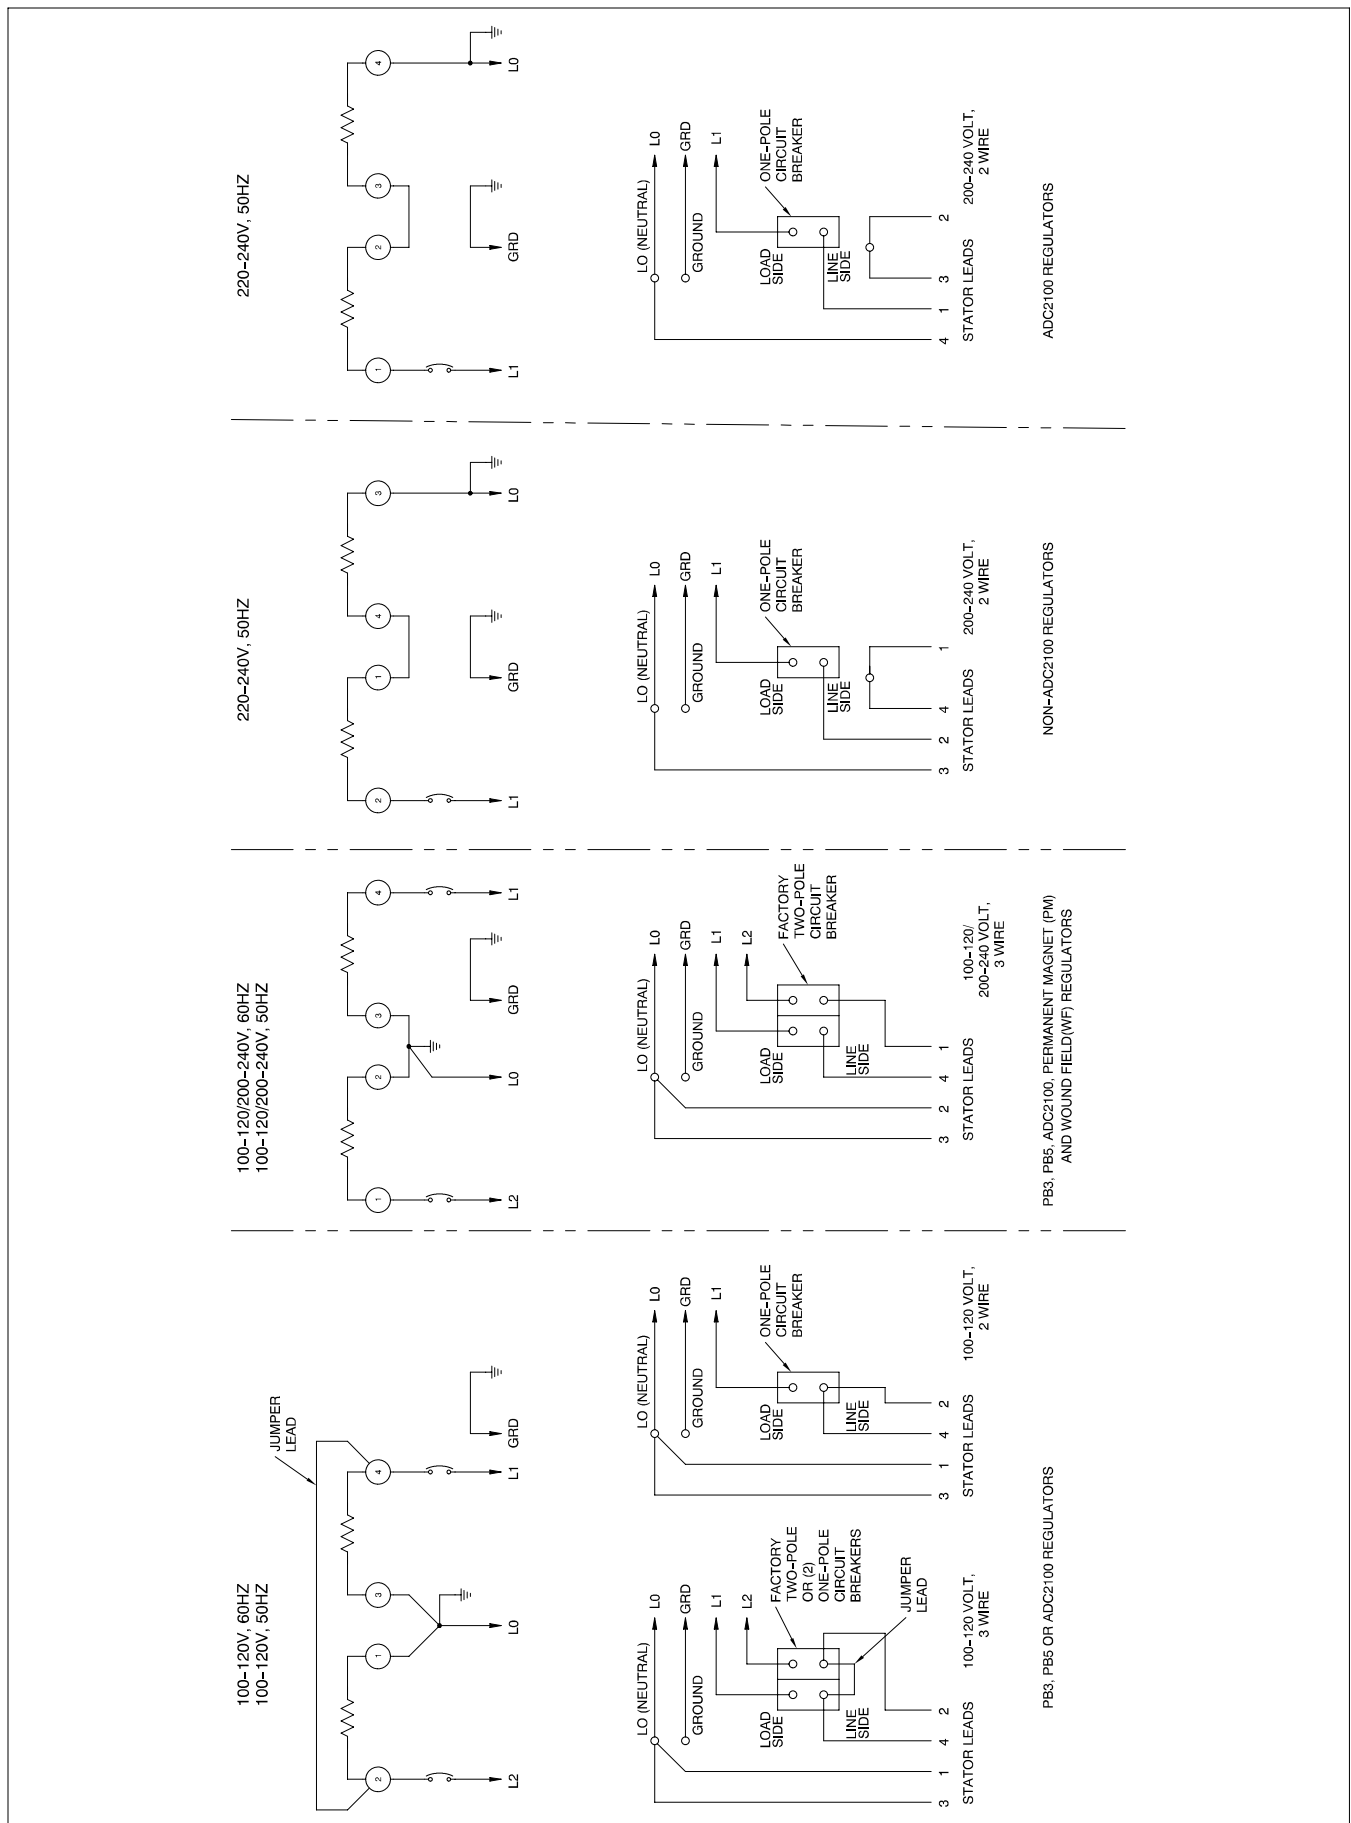
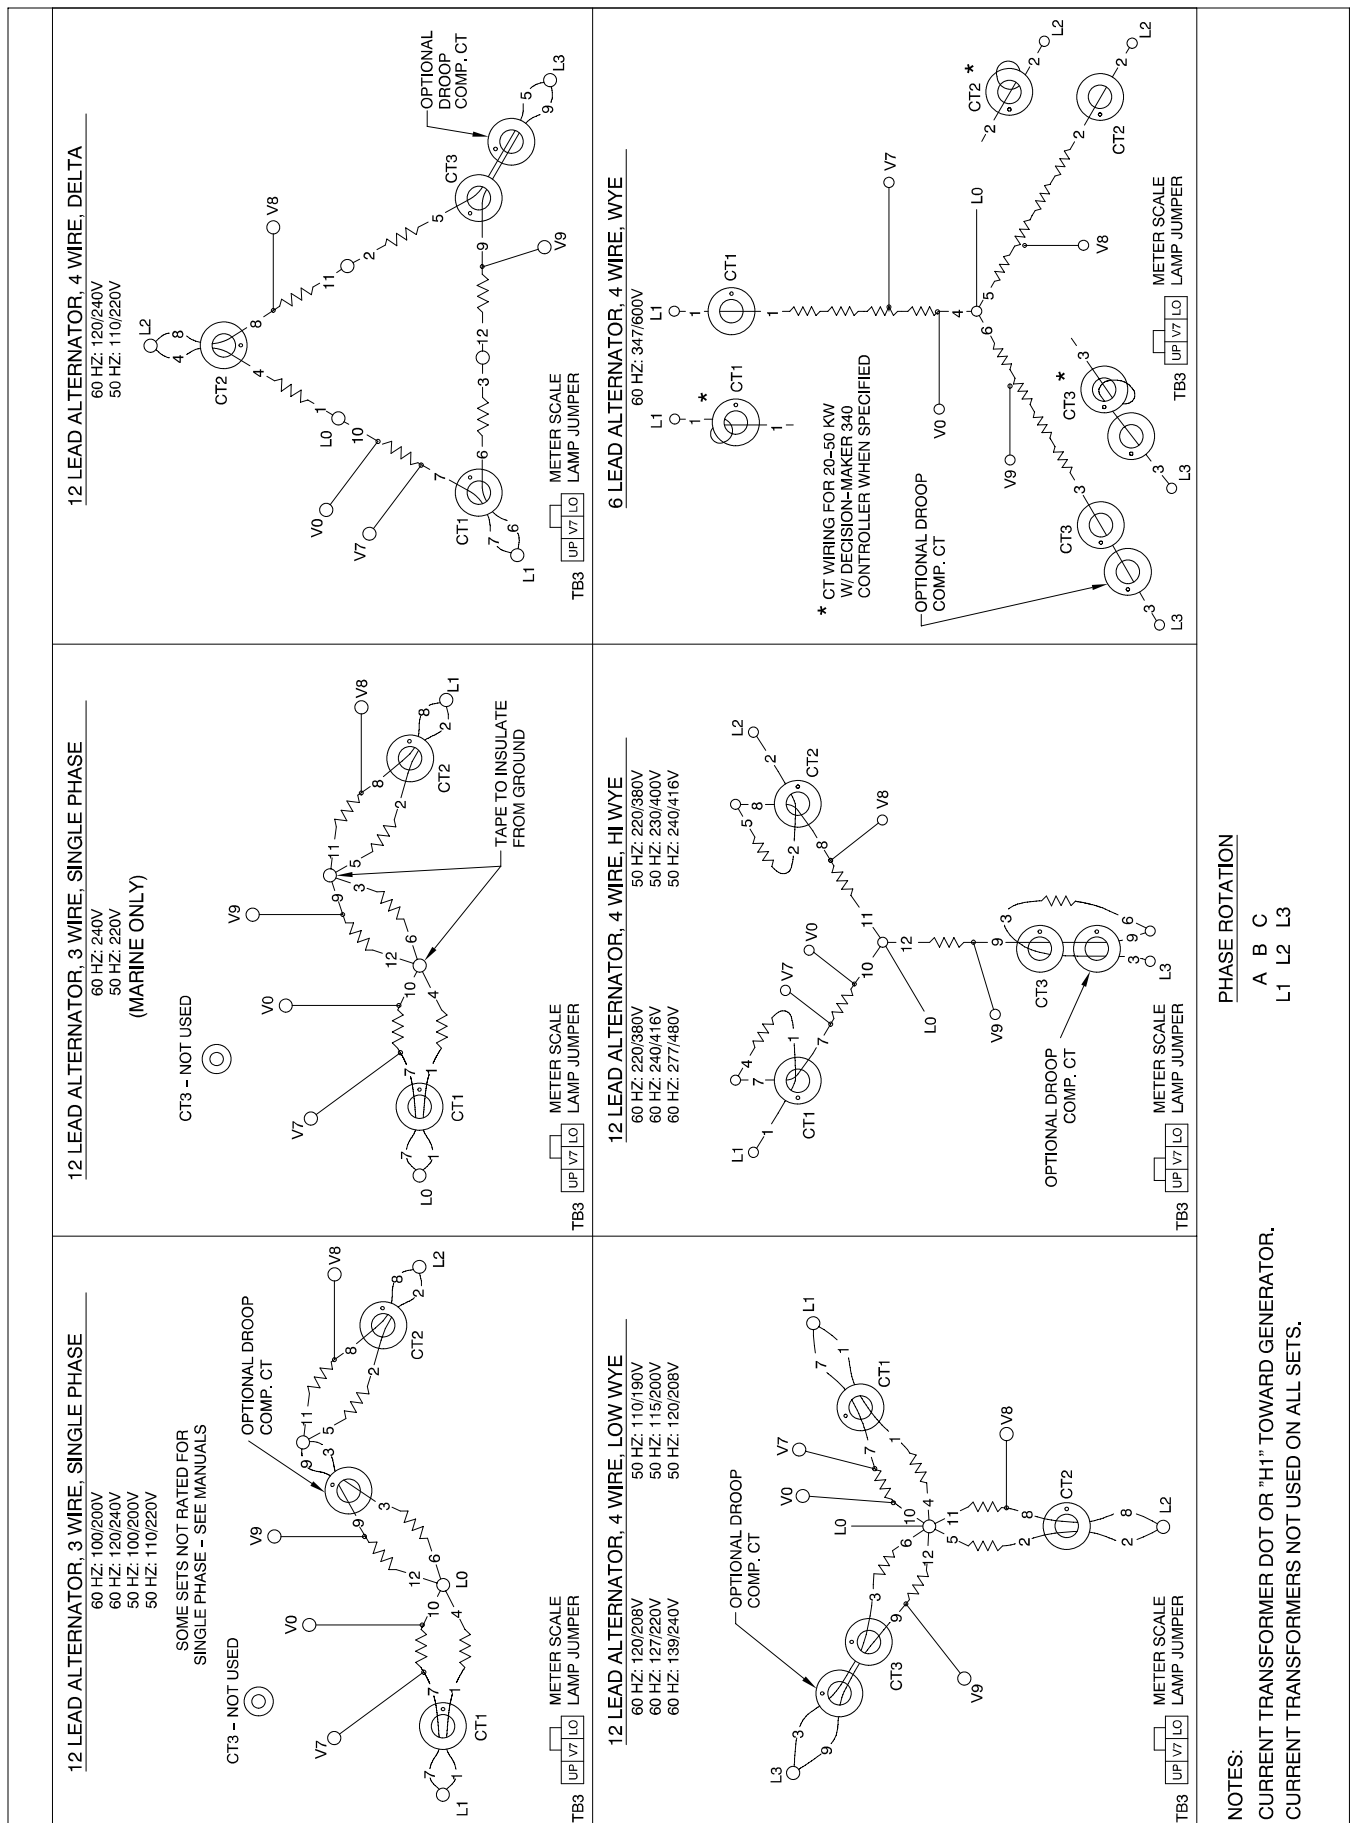
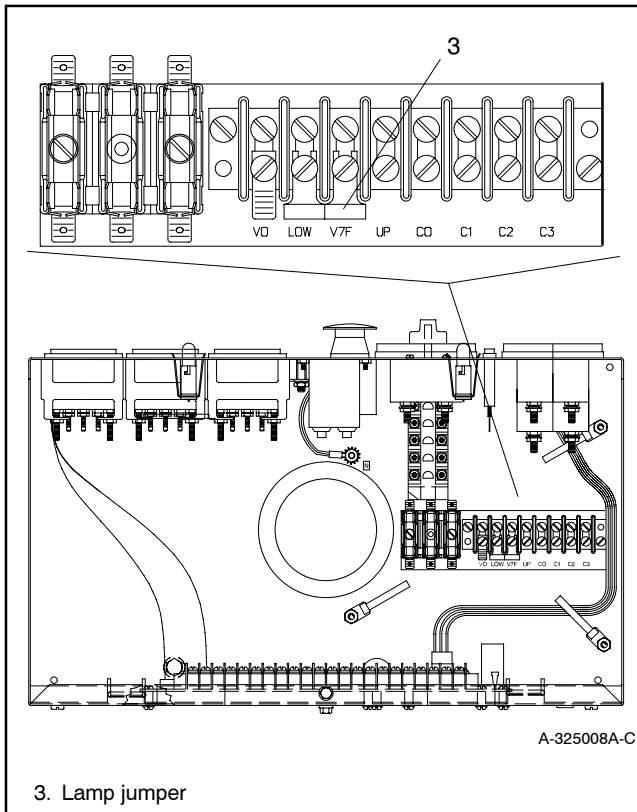

Figure 5-1 20-150 kW Permanent Magnet and Wound Field Single-Phase Alternators, ADV-5857-B
Figure 5-2 20-300 kW Permanent Magnet and 20-60 kW Wound Field Alternators, ADV-5875A-G
Figure 5-5 Meter Scale Lamp Jumper
Reconnect the generator set stator leads to change the output phase or voltage. Refer to the following procedure and the connection schematics shown in Figure 5-1, Figure 5-2, Figure 5-3, and Figure 5-4. Follow the safety precautions at the front of this manual and in the text and observe National Electrical Code (NEC) guidelines.
3. Use Figure 5-1, Figure 5-2, Figure 5-3, or Figure 5-4 to determine the generator set voltage configuration. Note the original voltage and reconnect as needed. Route leads through current transformers (CTs) and connect them according to the diagram for desired phase and voltage.
4. Remove the controller cover and reposition the meter scale lamp jumper (see Figure 5-5) to match the position for desired voltage (shown in Figure 5-1, Figure 5-2, Figure 5-3, or Figure 5-4). Replace the controller cover.